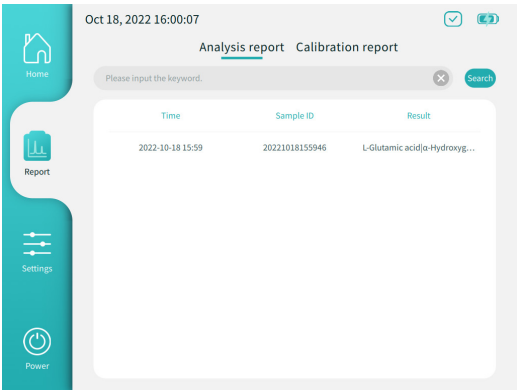

Figure 3.6 Report and History
- 1. In the instrument operation interface, click [report] on the left navigation bar to view the history of sample analysis and calibration (Figure 3.6).